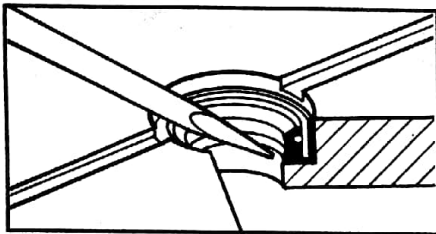

FIG. 6
1. Insert screwdriver blade under shaft seal and pry the seal from the housing being careful not to damage the walls or face of the trap (**FIG. 6**).